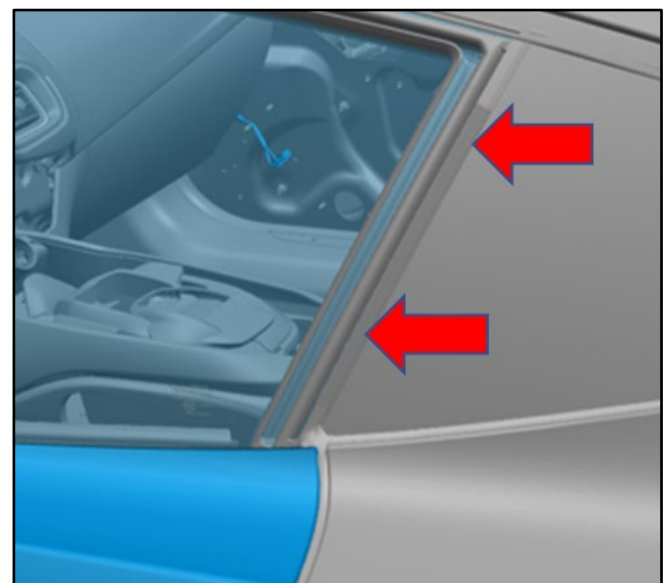

Figure 10
20. Do a check that the distance between the door glass and the rear quarter glass is correct (refer to Figure 10).